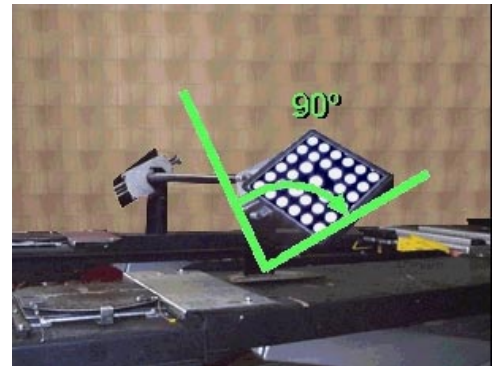

Figure 3-98
10. Rotate that calibration bar back  $90^\circ$  and allow the aligner to acquire a reading (Figure 3-98) Click on **<OK>**.